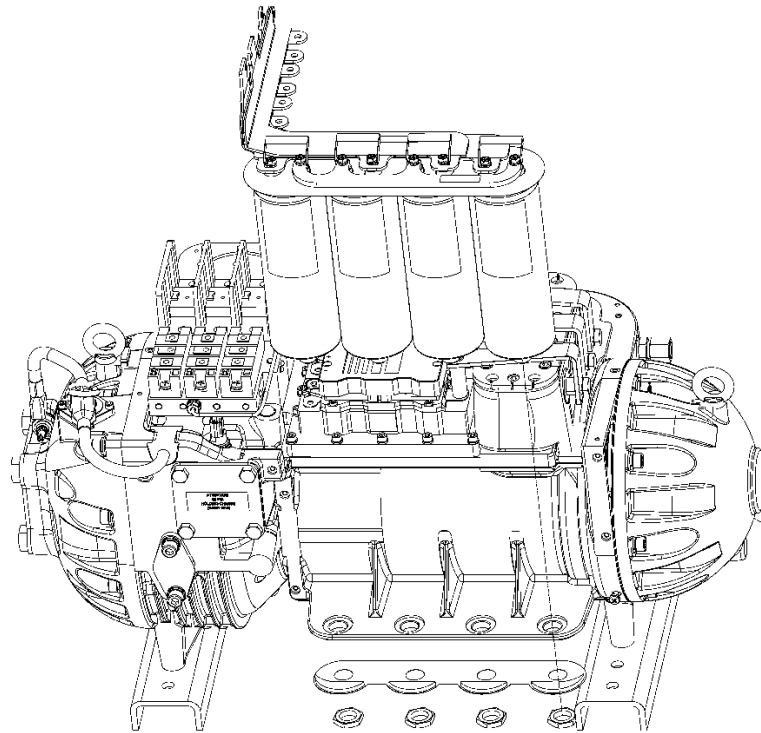

Figure 13 – Capacitor Assembly Removal
22. Carefully lift the DC Bus Bars and capacitors out as an assembly. Refer to Figure 13 (Capacitor Assembly Removal).
14. Reinstall the DC Bus Bar and capacitor assembly over the Inverter and torque to specification. Refer to Figure 13 (Capacitor Assembly Removal).